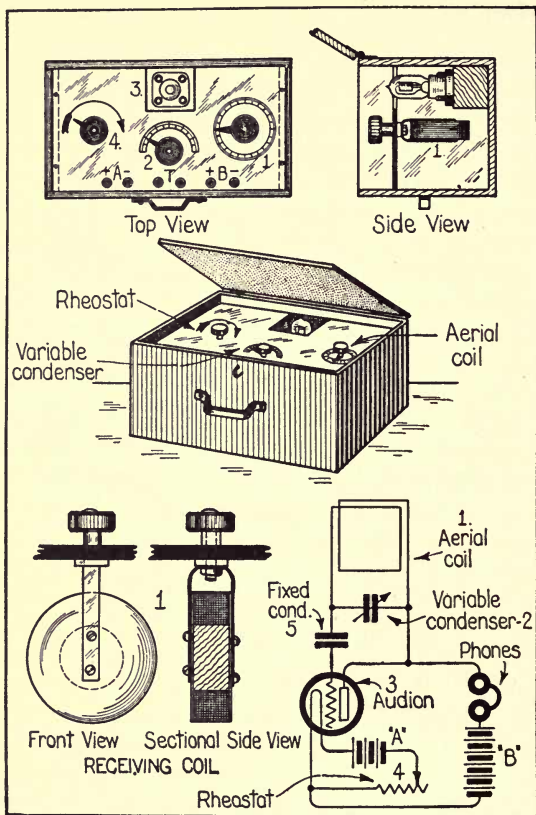

FIG. 118.
Two and a half inches from the top a $\frac{1}{4}$ inch Bakelite panel is mounted by means of $\frac{1}{2}$ inch cleats. On this panel are mounted the following instruments, as shown in Fig. 118: (1) The loop coil which is used for an aerial; (2) a variable condenser of .001 mf. capacity for tuning; (4) a rheostat for the filament of the audion bulb. The bulb itself (3), or, rather, the socket for the bulb, is mounted in a recess 4 inches below the top of the panel, as shown. Binding posts are provided for attachment of "A" and "B" batteries and also the telephones, for which a space is provided by the setting of the panel below the top of the case.